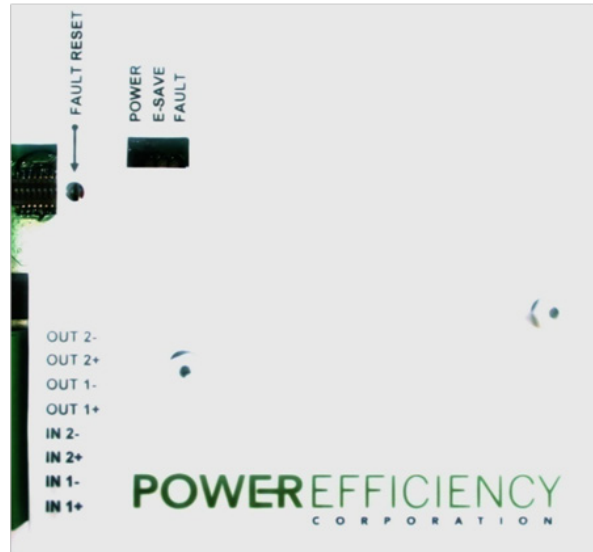

Figure 13. – Status Indicators
- The Dayton MEC provides three LED status indicators to provide the user with the status of the controller. The location of these status indicators is shown in Figure 13.
(1) Power-Status-LED
(4) Fault-Reset
- o Press the Fault Reset button (See Figure 13) for 1 second.